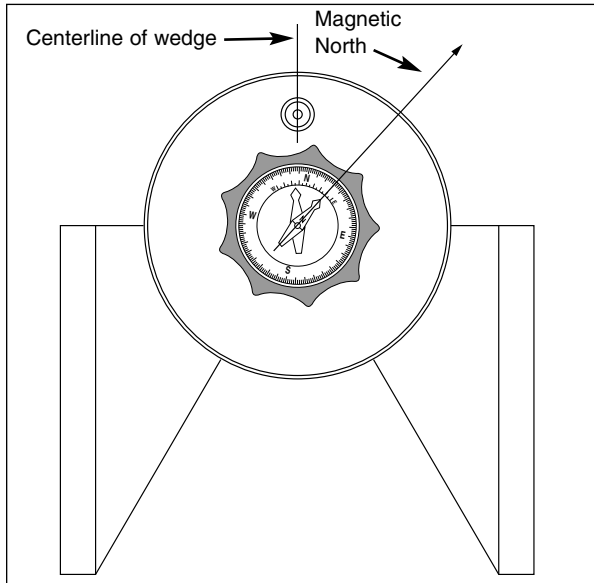

Fig. 17: Equatorial Wedge.
1. Loosen the knob/compass slightly. This allows for rotation of the equatorial wedge under the knob/compass (Fig. 17). The magnetic pointing arrow will point to magnetic north.